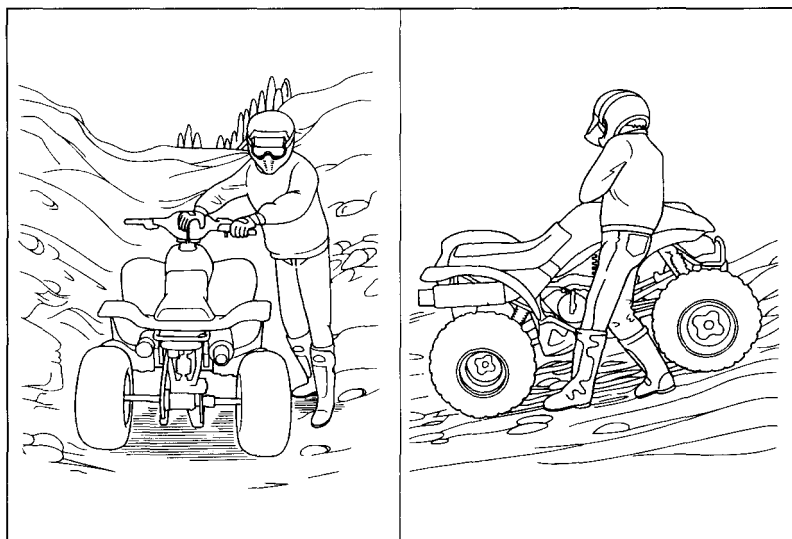

Fig. 3-14 Be sure your legs are clear of the wheels.
1. Stand with your body facing downhill, beside the vehicle so you can reach the front brake lever with your left hand (See Figure 3-14.)